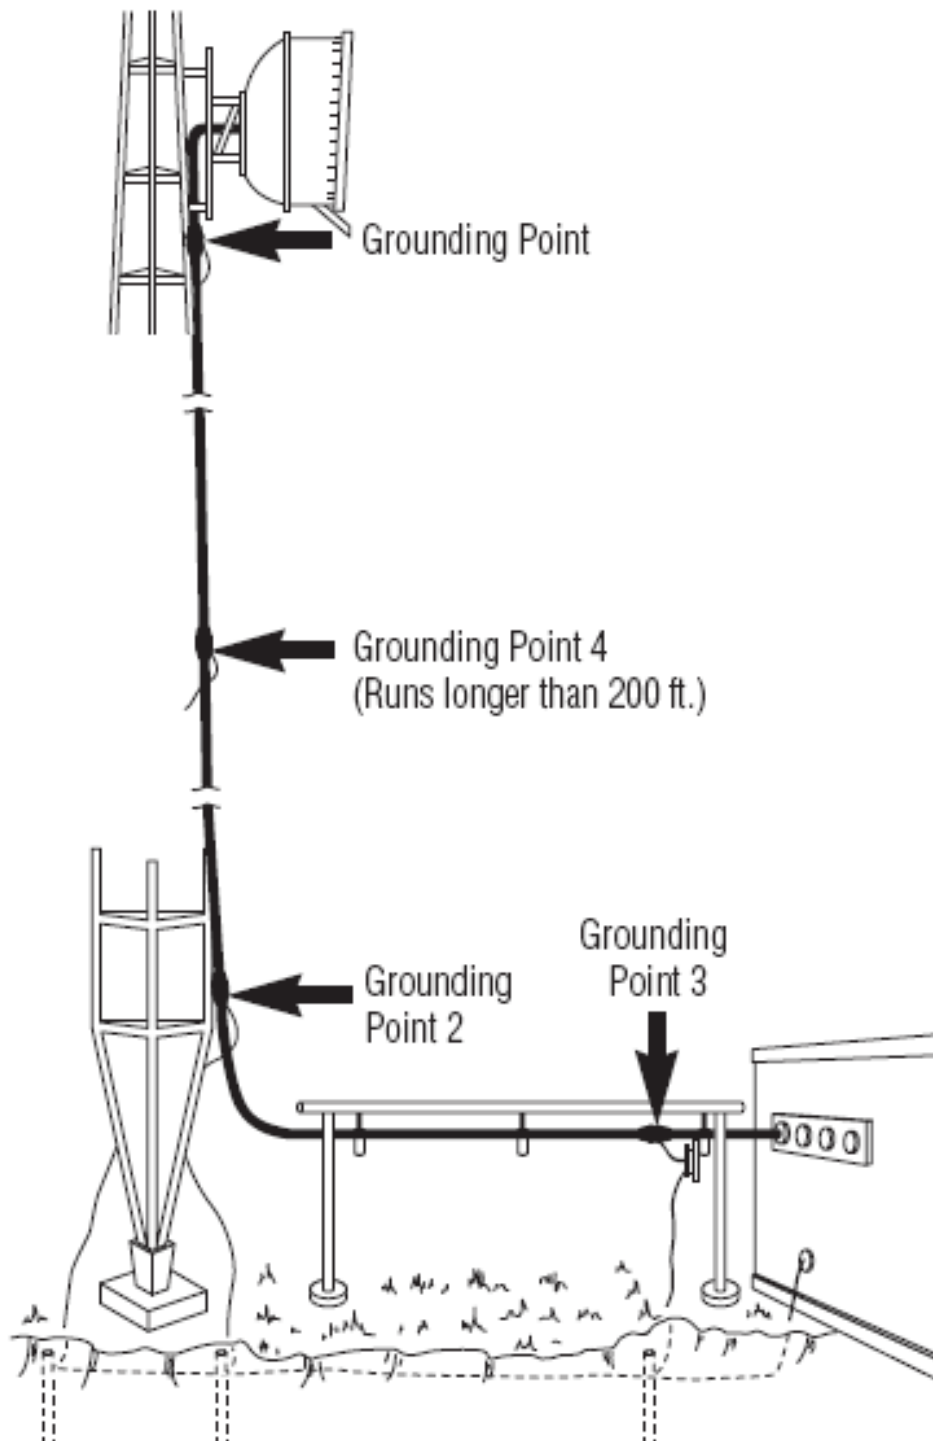

Figure 5 – Coax grounding
- a. All coax shall be grounded within ten (10) feet of the antenna, each 100 feet along the tower if applicable, at the departure from the tower, and at the building entrance. See figure 5 below.